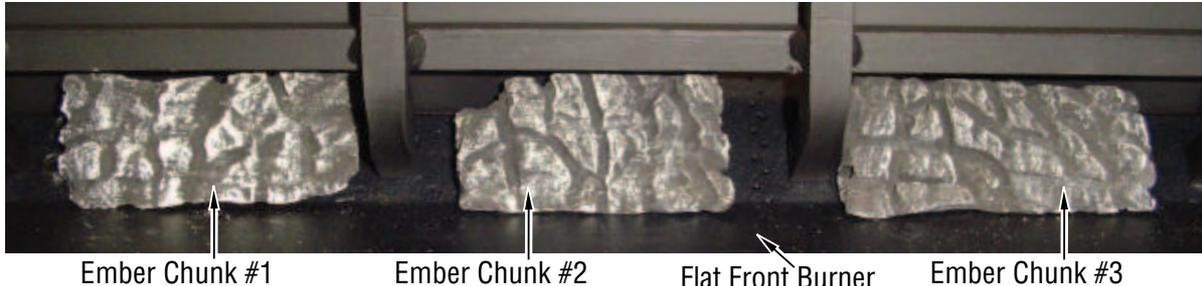

Figure 39 - Ember Chunk Placement VRT4036 Series
1. **Ember Chunk Placement.** The VRT4036 series burner systems include three ember chunks that are designed to fit over shoulder screws on the ember pan burner. The bottom of each ember chunk has a hole for securing the ember chunk in place when it is placed over a shoulder screw. Place the ember chunks as shown in **Figure 39** by placing the ember chunk with the number "1" on the left, "2" in the center, and "3" on the right. These numbers are embossed on the back of each piece for identification purposes. Please note that VRT4032 series burner systems **do not** include ember chunks.